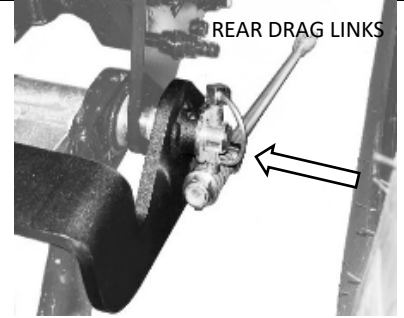

Figure 2B
2. Mount the Rear Drag Links (items 22 & 24) in place of the Spacers previously removed (figure 2B). Install both sides.